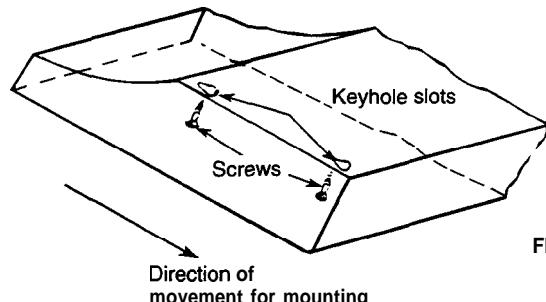

FIGURE 11
3. Partially drive the 4 mounting screws so that the heads of the screws extend  $1/2''$  below the bottom of the cabinet. Raise the hood against the bottom of the cabinet, making sure that the heads of the mounting screws protrude through the hole section of the keyhole slots as shown in Fig. 11. Before tightening the mounting screws, attach the power supply cable to the hood. Then push the hood back against the wall and tighten the mounting screws.